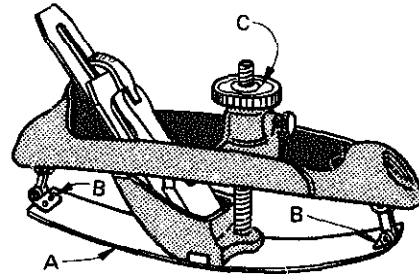

Fig. 8-74 Circular plane.
- The *circular plane*, figure 8-74, is used to plane concave or convex contours on wood.